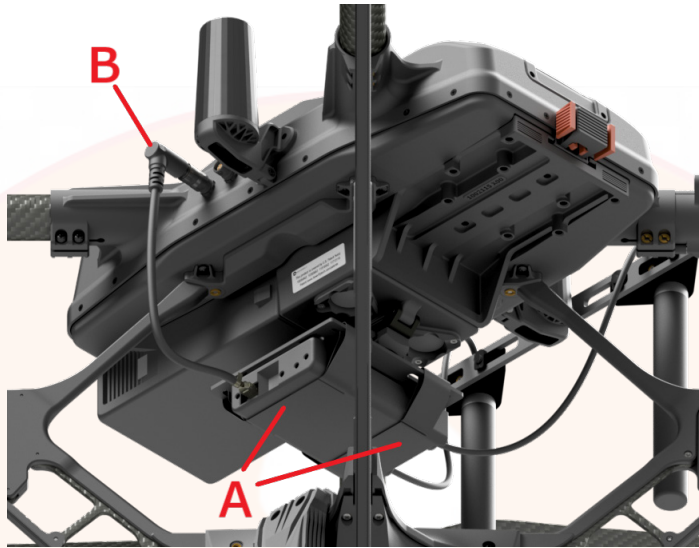

Figure 14: TW-850 Radio Installation 1
1. Insert the TW-850 radio into the two straps attached to the Universal Radio Plate, centered and oriented as shown, and then tighten the straps to secure the radio in place (**Figure 14, A**).
3. Plug one end of the TW-850 Power Cable Assembly into the radio connect furthest to the left and plug the other end into the aircraft’s **P1** connector (**Figure 14, B**).